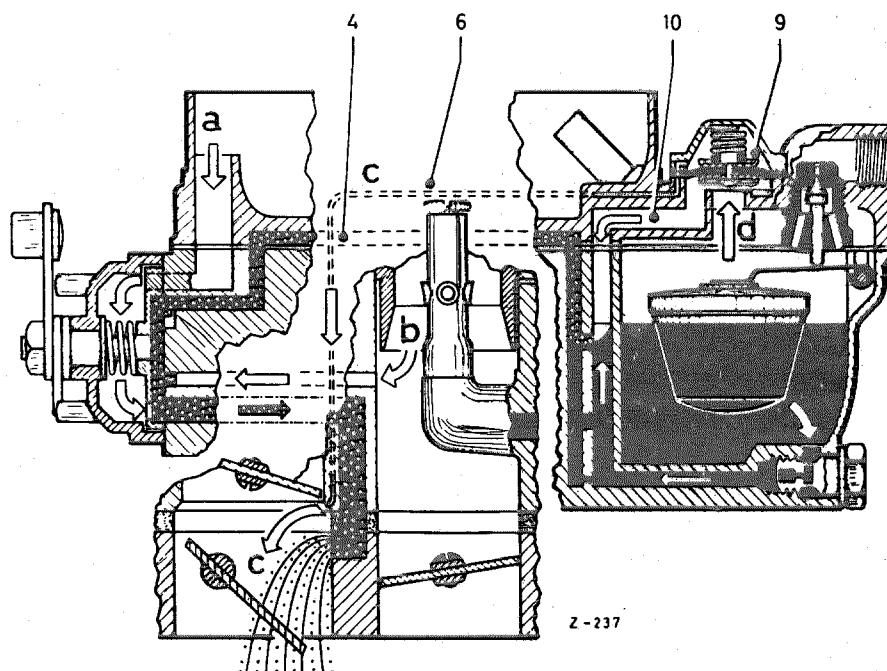

Fig. 07 — 0/9
Due to the partial vacuum effect, the starter air valve opens and admits more air from the float chamber via the air tube (10) to the starter system via the canal (4). This additional air immediately attenuates the starting mixture after the engine has started, thus ensuring the proper conditions for it to continue running (Fig. 07 — 0/9).